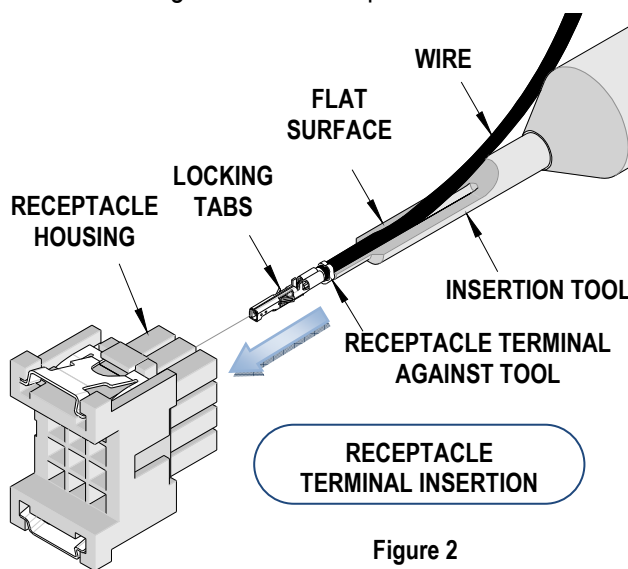

Figure 2
1. To properly use this tool, with the flat side facing up, place the wire in the groove of the tool so that the terminal is touching the end of tool. See Figure 2 and 3.